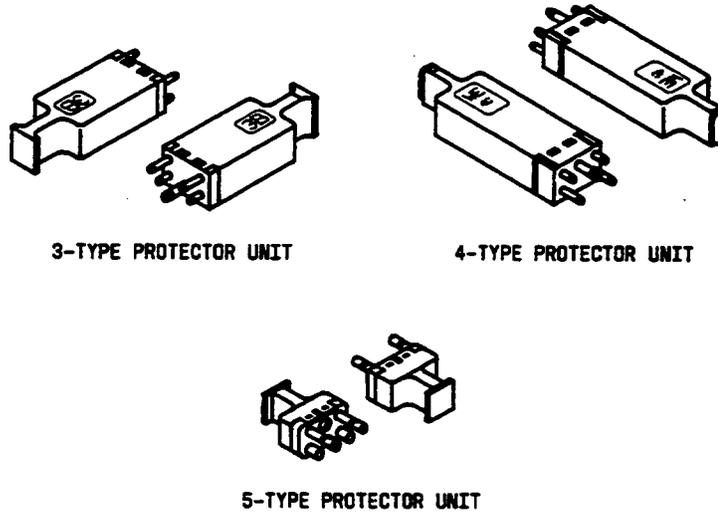

Figure 1—Typical 3-, 4-, and 5-Type Protector Units
**2.03** The plug-in protector units (Figure 1) are categorized by three types: